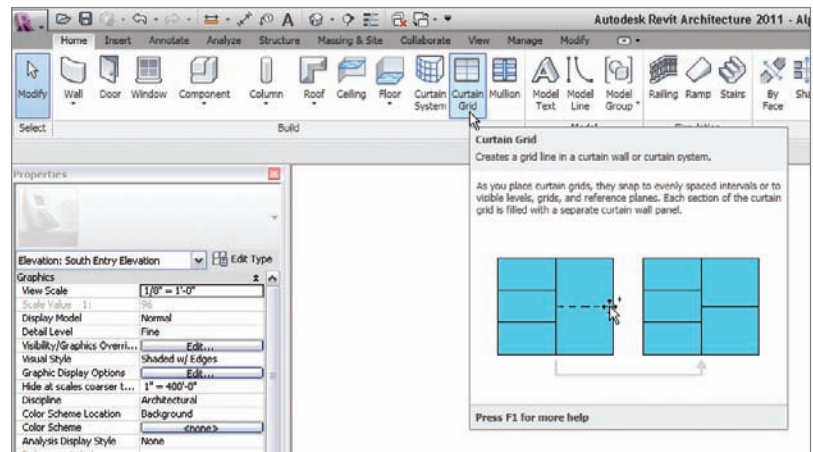

FIGURE 16.30 Click the Curtain Grid button on the Build panel of the Home tab.
1. On the Build panel of the Home tab, click the Curtain Grid button, as shown in Figure 16.30.